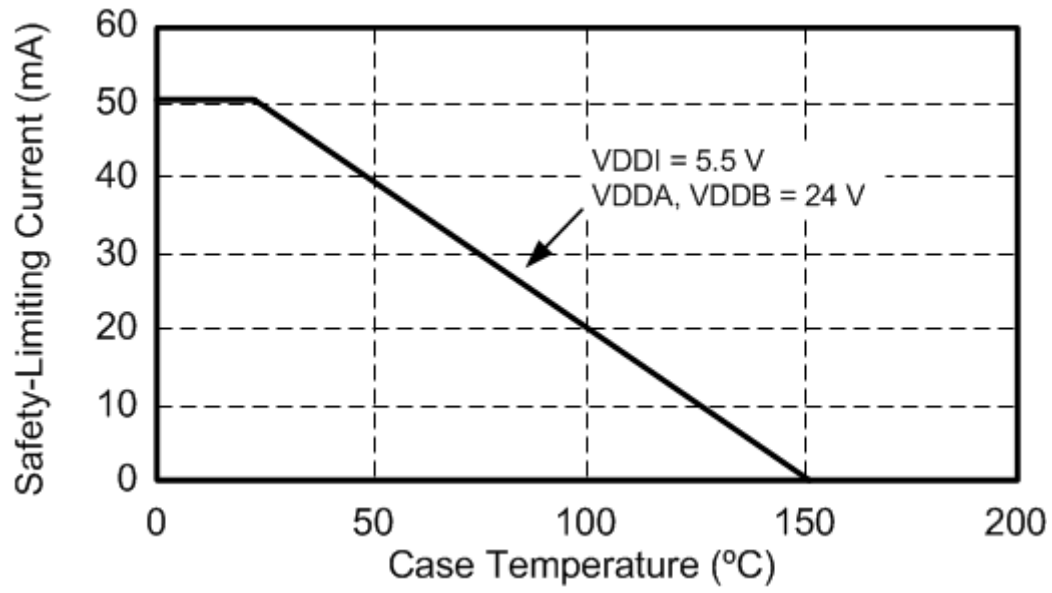

Figure 4.4. WB SOIC-16, NB SOIC-16 Thermal Derating Curve, Dependence of Safety Limiting Values with Case Temperature per VDE 0884-10
1. Maximum value allowed in the event of a failure. Refer to the thermal derating curve in [Figure 4.4 WB SOIC-16, NB SOIC-16 Thermal Derating Curve, Dependence of Safety Limiting Values with Case Temperature per VDE 0884-10](#) on page 23.